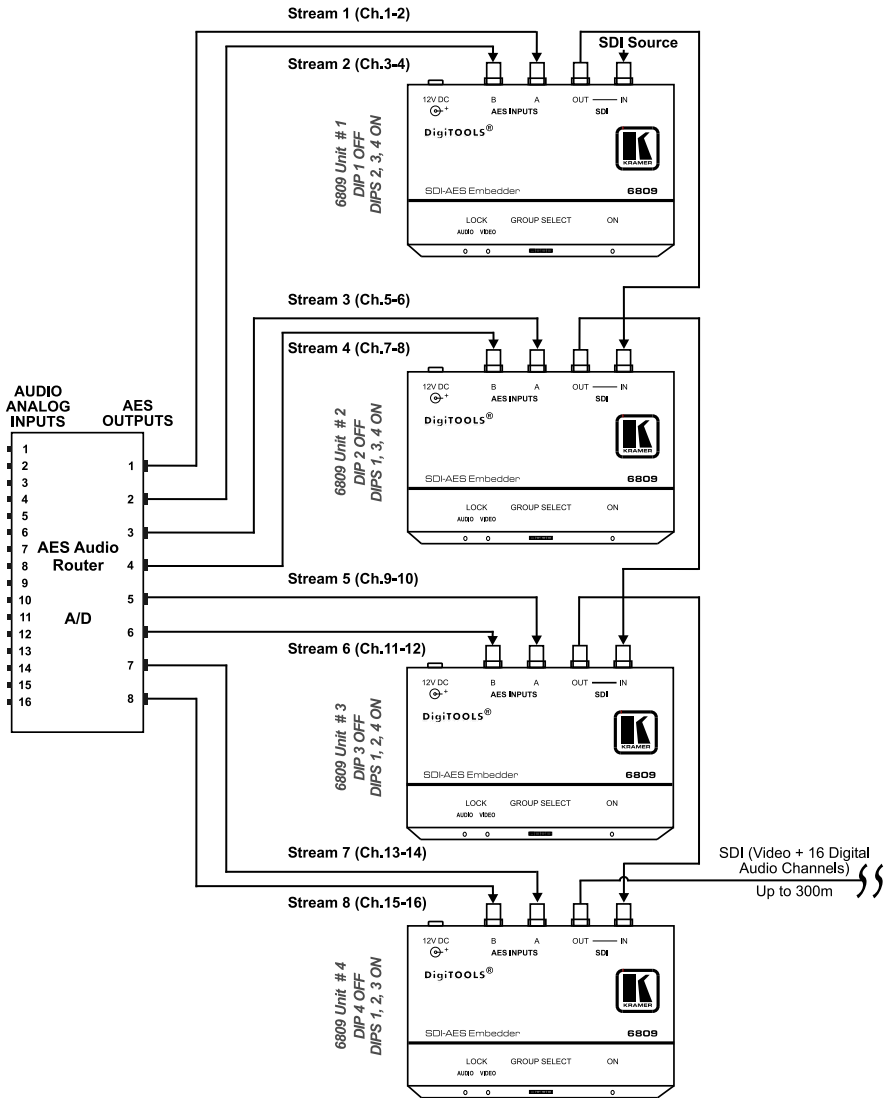
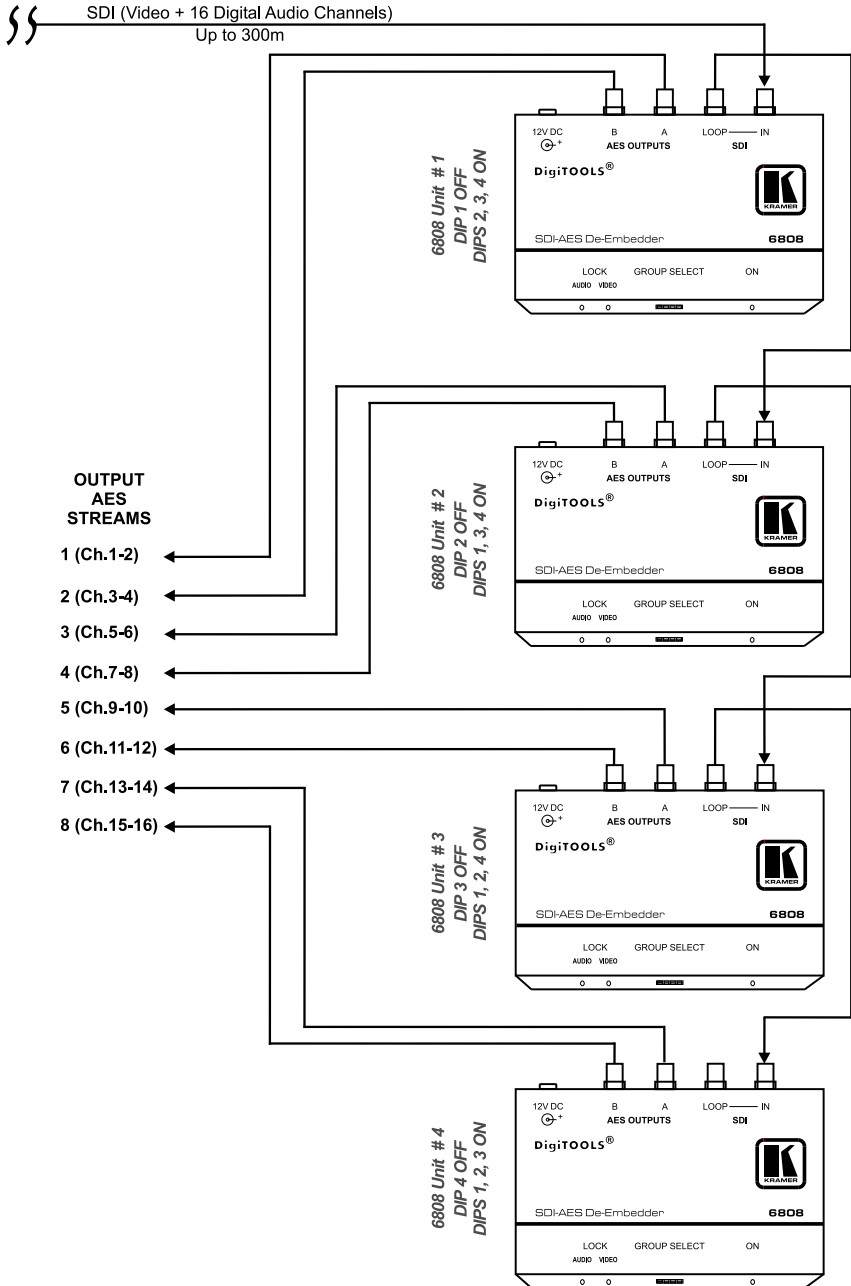

Figure 6: Cascading SDI-AES De-Embedder / SDI-AES Embedder Units I
Figure 7: Cascading SDI-AES De-Embedder / SDI-AES Embedder Units II
2. Connect the SDI LOOP BNC connector (OPTIONAL) to the SDI IN BNC connector on an additional unit to increase outputs (see Figure 7).
2. Connect the SDI OUT BNC connector to an SDI and AES/EBU acceptor or to the SDI IN BNC connector on a **6808 SDI-AES De-Embedder** unit (see Figure 6).
You can cascade up to four interconnected **6809** *SDI-AES Embedder* units with up to four interconnected **6808** *SDI-AES De-Embedder* units¹ to provide eight streams of AES, each stream containing two digital audio channels (see Figure 6 and Figure 7).